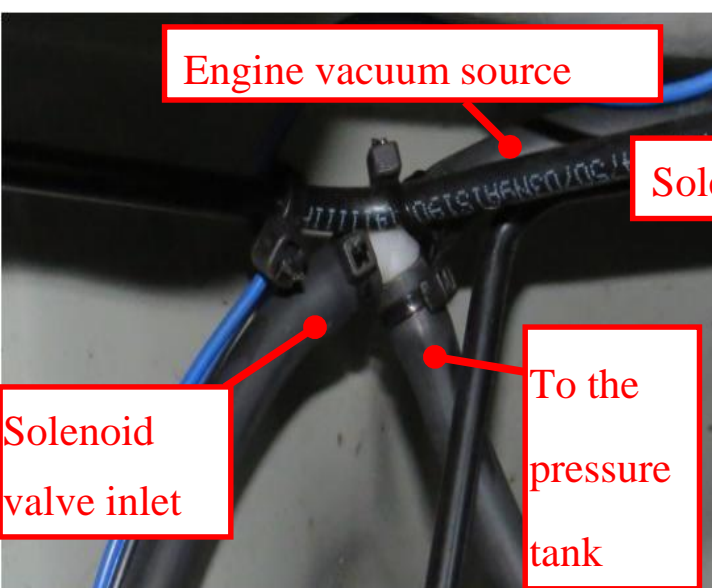
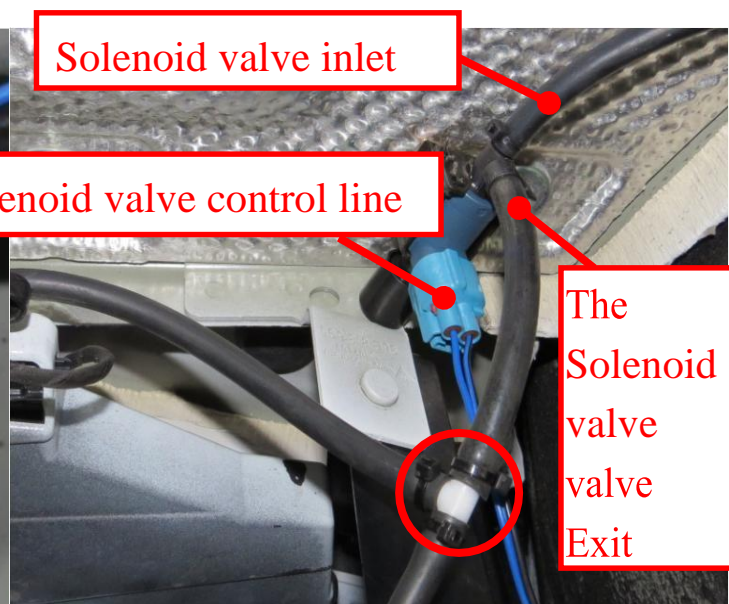

Figure 3-5
Figure 3-6
3. Connect the engine vacuum source to the pressure tank and connect the three-way connector with valve inlet.(Figure 3-5), the solenoid valve outlet is connected to the left and right muffler valves by using a tee connector (Figure 3-6).
4. Connect (Fig. 3-6) solenoid valve control line (blue, black) from the bottom of the vehicle through the steering firewall (Fig. 3-7) to the driver's seat and control box (Figure 3-8)